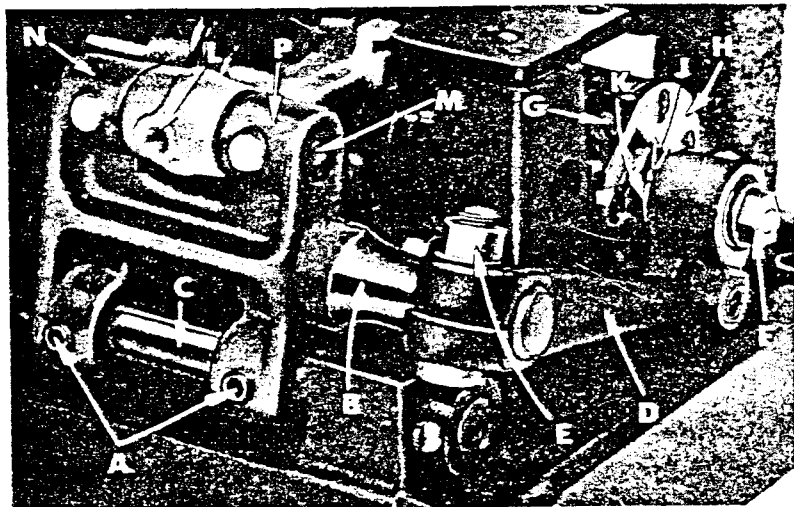

Fig. 10
Should it be necessary to move the feed dog to the left or right, loosen screws (A, Fig. 10) which hold the feed rocker (B) onto the feed rocker shaft (C), and move feed rocker to desired position and retighten screws. Make sure the feed rocker arm (D) does not bind after making this adjustment.
Should it be necessary to move the feed dog forward or backward, loosen nut (E, Fig. 10) which clamps the feed rocker arm to the feed rocker and move the feed rocker forward or backward as needed and retighten nut.
Set the stitch to required length. This is accomplished by loosening the locknut (F, Fig. 10) 1/2 turn (it has a left hand thread) on the end of the stitch regulating stud and turning the stitch adjusting screw (G) located under the left end of the cloth plate, in the head of the main shaft (H), which is marked with 'L' and 'S'. Turning the screw clockwise shortens the stitch (moves stitch regulating stud toward the 'S') and turning it in a counterclockwise direction lengthens the stitch (moves stitch regulating stud toward the 'L'). Retighten the locknut securely. To prevent destructive damage to the feed drive bearing, the Key screw (J) must engage the 'U' shaped key slot in the ferrule (K).
Greased bearings are located at (N, P, Fig. 10). If grease sealed bearings are replaced they should be pressed in flush with the casting. To assemble, reverse the procedure described in the previous paragraph. Start tapered end of shafts first, twisting slightly when entering the grease seals to prevent damage. Check for proper adjustment of feed dog as described under 'Setting the Feed Dog'. Also check to see that there is no binding at any point.